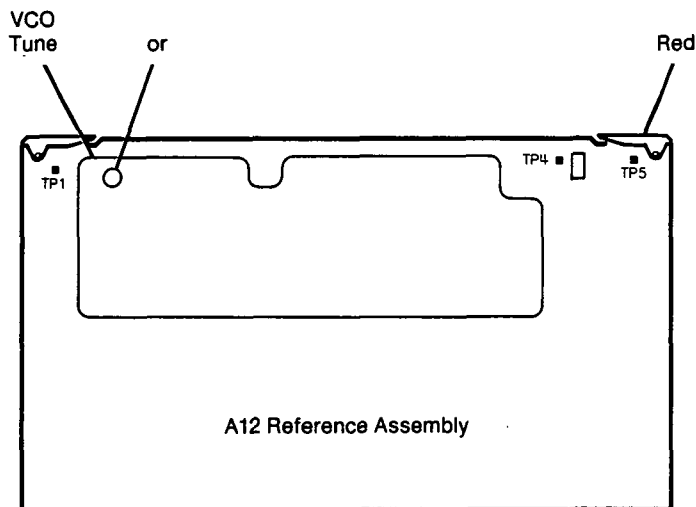

Figure 9. VCO Tune Adjustment Location
1. Remove the instrument top cover. If VCO TUNE on the A12 assembly (red extractors) is accessible, continue with step 2. See Figure 9. Otherwise, install the A12 assembly on the extender. Use SMB cables as required (the EXT REF cable need not be reconnected now).